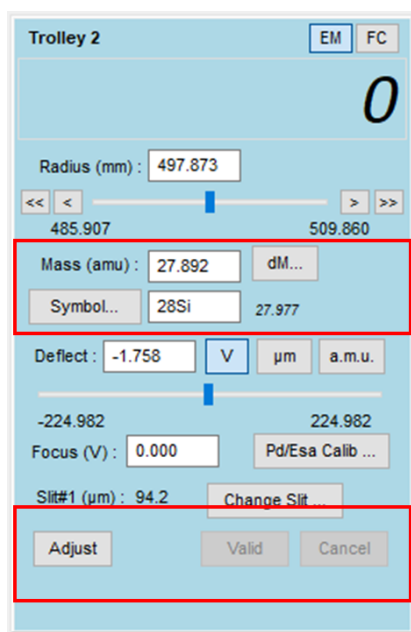

Figure 389: detector panel useful to calibrate the Magnetic field for a given detector.
2. In the detector panel (Figure 389), click on **Adjust**.